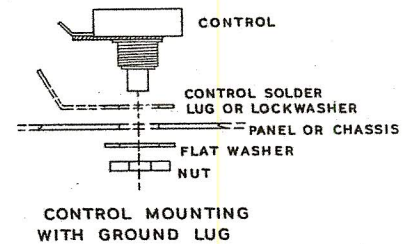

Figure 4
- (✓) Mount a 40  $\Omega$  wirewound control at location Q, using a lockwasher between the control and the chassis and a 3/8-32 nut on top of the chassis, as illustrated in Figure 4. Orient the lugs as shown. Bend the lugs upward if necessary to clear socket A.